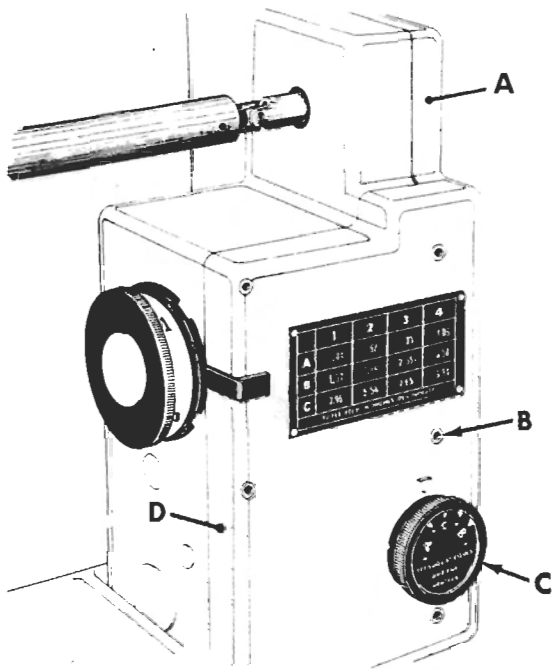

Figure 41
Loosen screws (B, fig. 41) and remove front cover (D) and side cover (A).
NOTE: When replacing front cover, be sure to place yoke in double gear (J) assembly. If, for any reason, shifter knob (C, fig. 41) gets out of time, turn counter-clockwise until gears mesh, then loosen set screw in knob. Continue turning counter-clockwise until "B" is in line. Then tighten set screw.